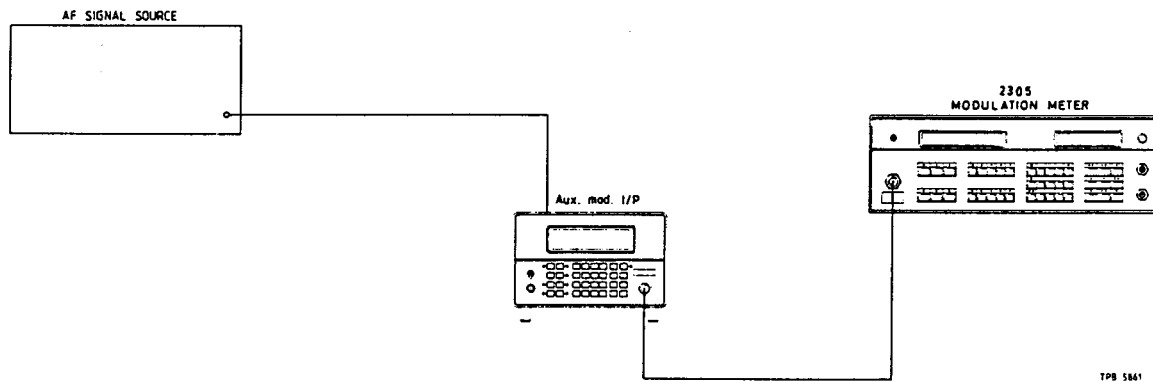

Fig. 5-9 Test gear arrangement to check auxiliary modulation
- (1) Connect the test equipment as shown in Fig. 5-9.
- (2) Set the AF signal source to give a frequency of 1 kHz at 1.00 V RMS.
- (3) Set the 2022C controls as follows :